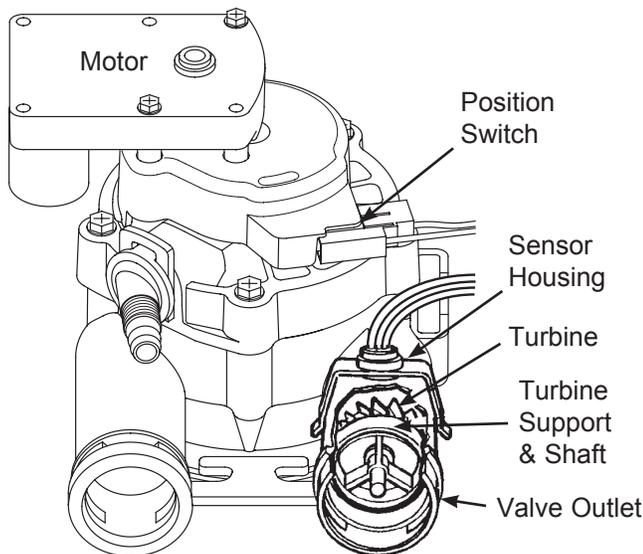

FIG. 18
**NOTE:** If you don't get a reading in the display with faucet open, pull the sensor from the valve outlet port. Pass a small magnet back and forth in front of the sensor. If you get a reading in the display with the magnet, unhook the in and out plumbing and check the turbine for binding (See Figure 18).